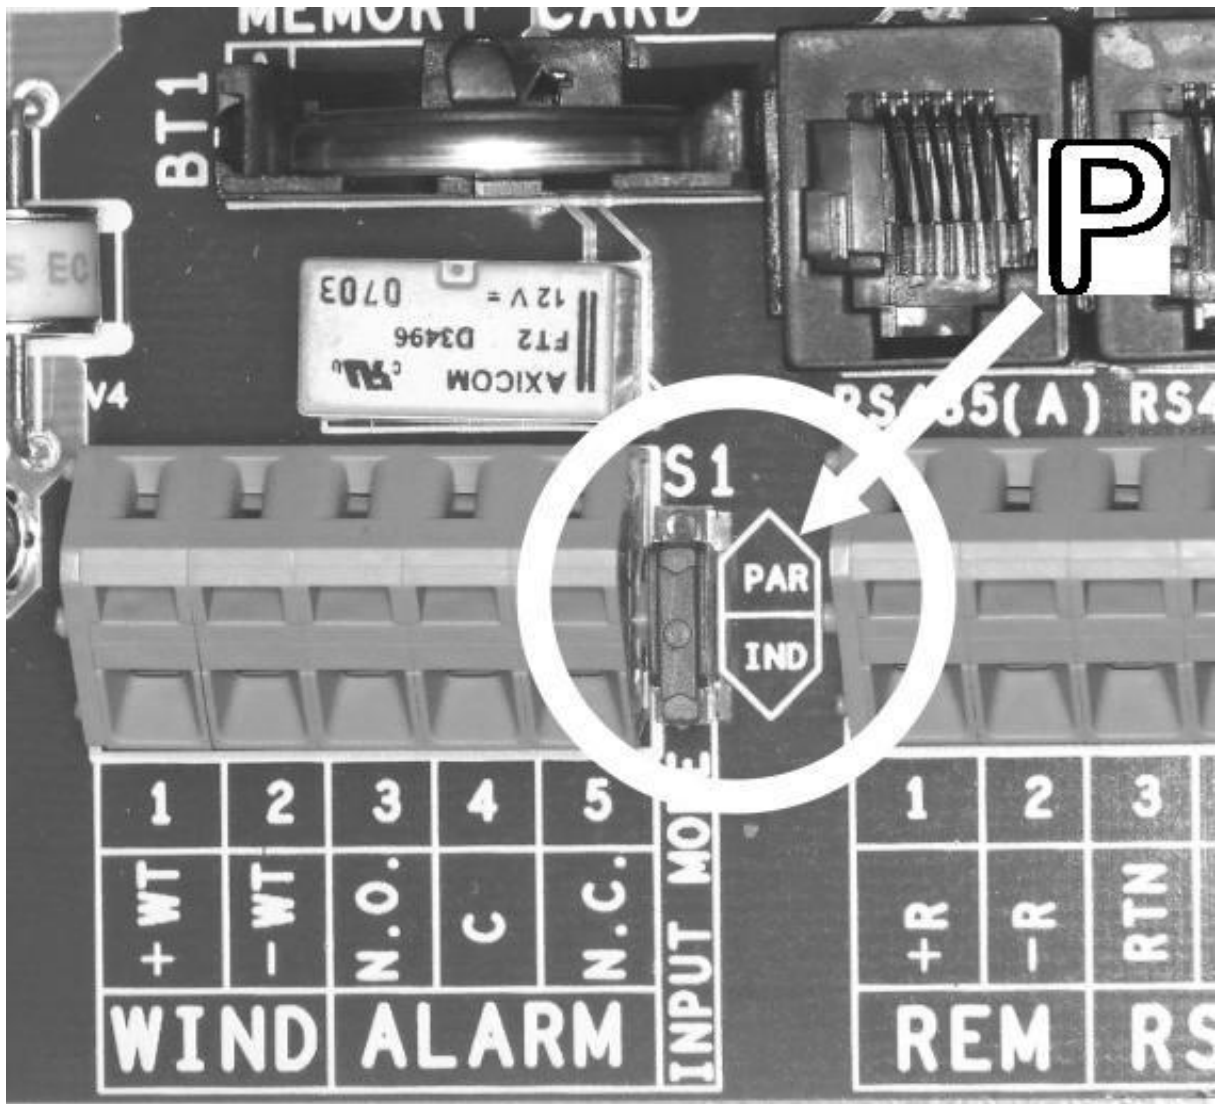

Fig. 14 - Inverter Parallel Mode Configuration
The cover of the Aurora inverter needs to be removed (Ref. Fig. 14 / screw pos. "A") in order to gain access to the terminal block board.
The switch "S1" should be placed to position "PAR" as shown in Fig 14 in order to configure the inverter in parallel mode.
Step 1: Remove the Switch Box front panel (remove the 4 screws in pos “B” of Fig. 10). Remove also the cover of the Aurora inverter (Ref. Fig. 14 / screw pos. "A") in order to gain access to the terminal block board.